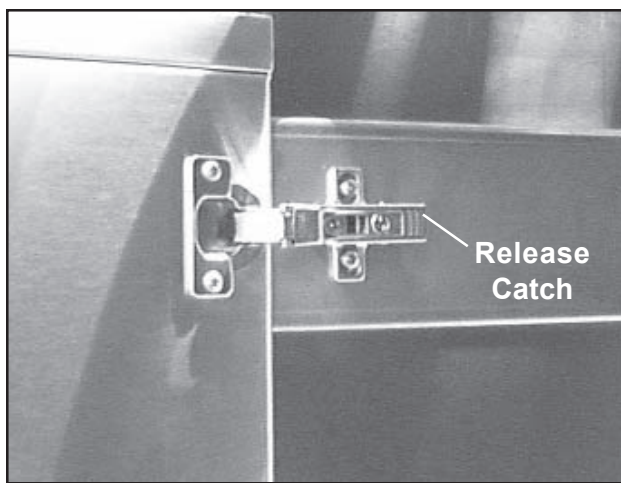

Figure 14. Door Hinge Release Catch
1. Squeeze on the release catches of both hinges (Figure 14), and remove the door. Refer to *Removing a Swinging Door* on *Page 16*.
2. Squeeze on the release catches of both hinges (Figure 14), and remove the door from the cabinet. Refer to *Removing a Swinging Door on Page 16*.
2. Squeeze on the release catches of both hinges (Figure 14), and remove the door from the cabinet. Refer to *Removing a Swinging Door* on *Page 16*.